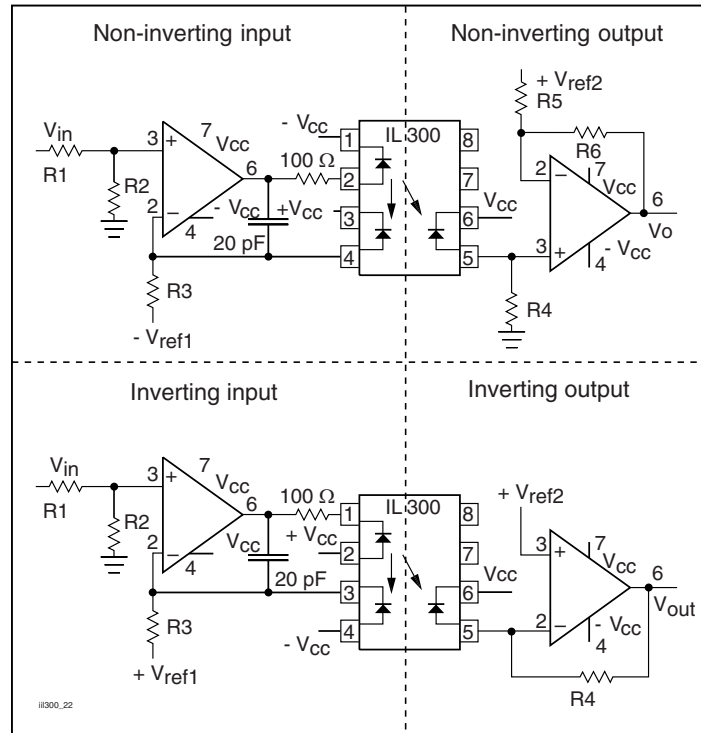

Fig. 17 - Non-inverting and Inverting Amplifiers
The DC transfer characteristics are shown in figure 17. The amplifier was designed to have a gain of 0.6 and was measured to be 0.6036. Greater accuracy can be achieved by adding a balancing circuit, and potentiometer in the input divider, or at R5. The circuit shows exceptionally good gain linearity with an RMS error of only 0.0133 % over the input voltage range of 4 V to 6 V in a servo mode; see figure 15.
The same procedure can be used to design isolation amplifiers that accept bipolar signals referenced to ground. These amplifiers circuit configurations are shown in figure 17. In order for the amplifier to respond to a signal that swings above and below ground, the LED must be pre biased from a separate source by using a voltage reference source (V_{ref1}). In these designs, R3 can be determined by the following equation.